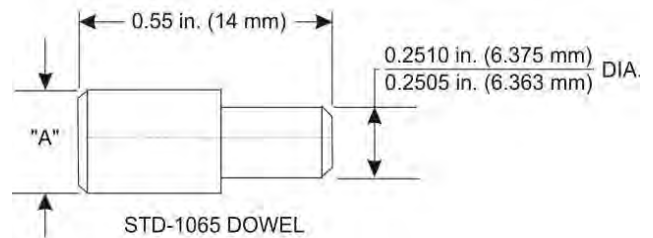

Figure 32
- E. Measure the diameter of the alignment dowel (Dimension A) shown in Figure 32 and determine if the measurement conforms to the values for the different alignment dowel part numbers in the latest revision of Service Bulletin No. SB-475 for additional details.